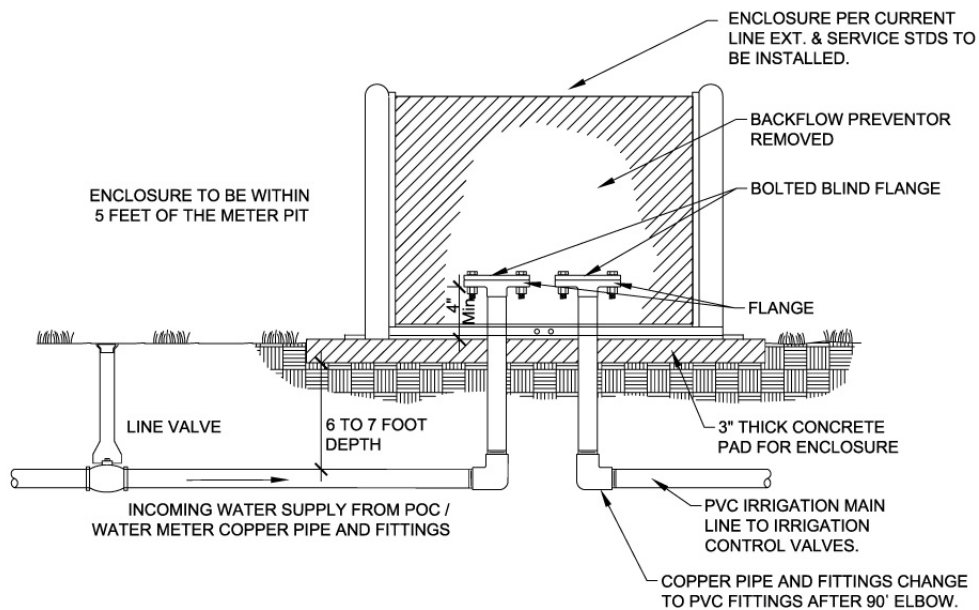

Figure 1 - Blind flange assembly configuration
**Technical Requirements:** Below is the recommendation for a typical removed backflow prevention assembly, for all sizes of backflow. This would only apply to seasonal irrigation installations. In these instances where removal of the assembly is requested, flanges must be installed on both future and existing stub and backflow assemblies. The lower stub flange ring, within the enclosure, shall be located to within four (4") inches of the concrete pad as illustrated on figure 1. During the removal period, the valve on the supply side shall be shut and the pipe stubs shall be capped or plugged with a bolted blind flange.